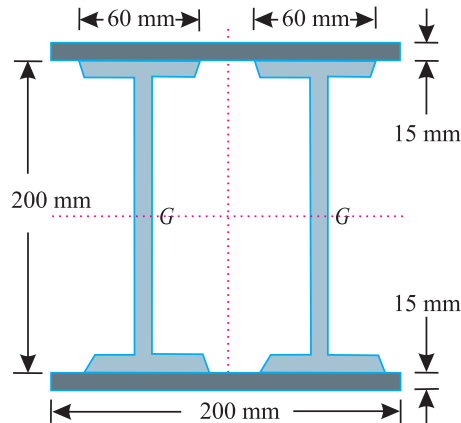

Fig. 7.21.
**Example 7.17.** A compound section is built-up by welding two plates 200 mm × 15 mm on two steel beams ISJB 200 placed symmetrically side by side as shown in Fig. 7.21.